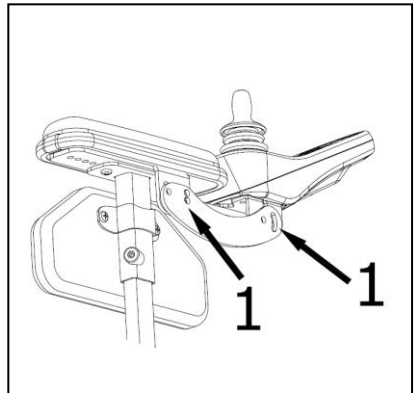

Figure 4.14
**Remote height setting (fig 4.14).**
1. Loosen the bolts (1).
2. Place the control unit in the desired height position (2).